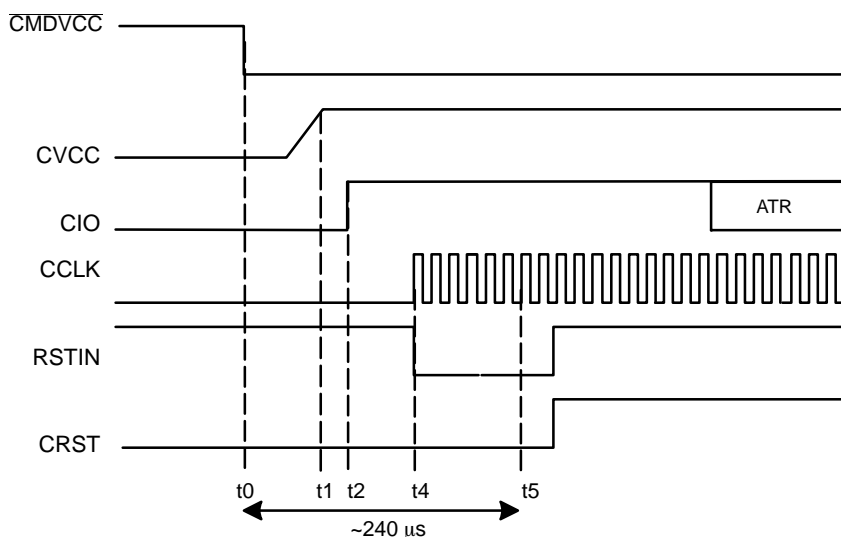

Figure 4. Activation Sequence – RSTIN Mode (RSTIN Starting High)
The clock can also be applied to the card using a **RSTIN mode** allowing controlling the clock starting by setting RSTIN Low (Figure 4). Before running the activation sequence, that is before setting Low  $\overline{\text{CMDVCC}}$  RSTIN is set High. The following sequence is applied:
- Between  $t_2$  (Figure 4) and  $t_5 = 240 \mu\text{s}$ , RSTIN is reset to LOW and CCLK will start precisely at this moment allowing a precise count of clock cycles before toggling CRST Low to High for ATR (Answer To Reset) request.